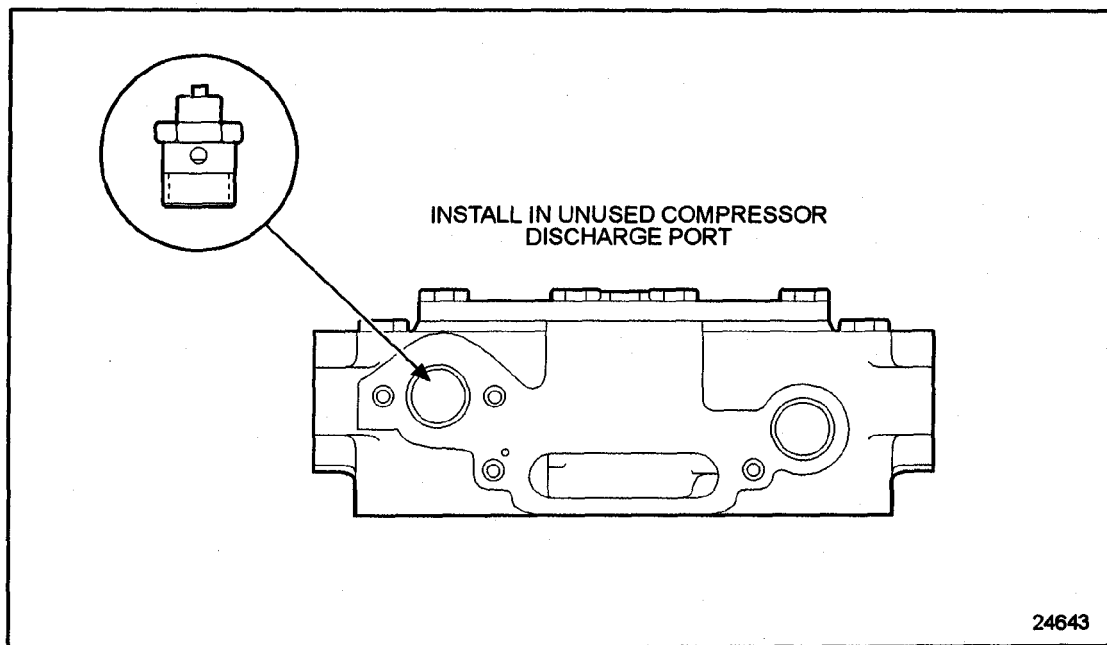

Figure 10-8 Location of Bendix Air Compressor Pressure Relief Valve
3. Remove an unused compressor discharge port plug on the top or side of the compressor head. See Figure 10-8.